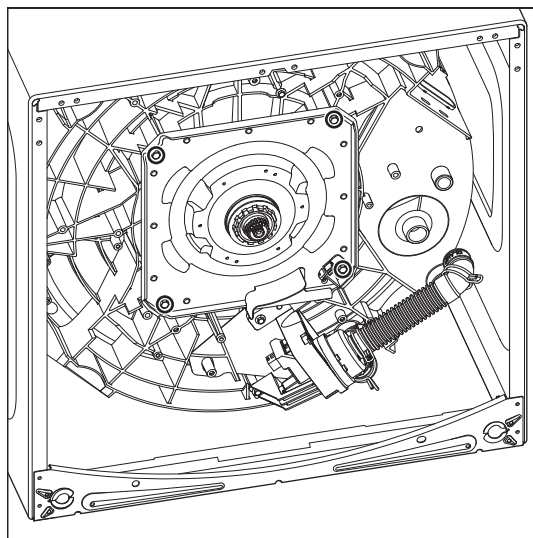

Figure 1
2. Use a 10 mm socket to remove the four (4) screws securing the drive assembly to the tub (refer figure 1). (The bottom right screw also secures the connector clip to the drive assembly). The drive assembly can now be pulled away from the tub.
REASSEMBLY NOTE: The four (4) drive assembly screws are threaded into the bottom of the plastic tub (see Figure 1 below). Using a power driver to tighten the screws may strip the holes. Tighten only by hand until very snug.